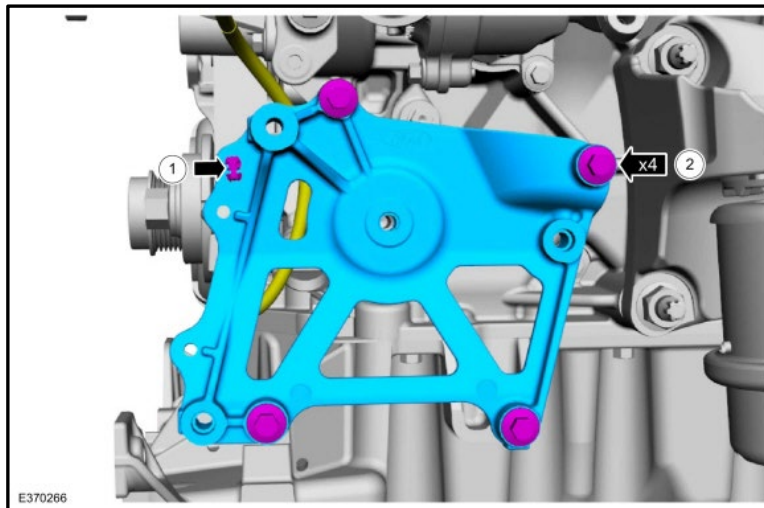

Figure 9
D. Disconnect the harness retainer. Remove the bolts and the A/C compressor bracket. Figure 9